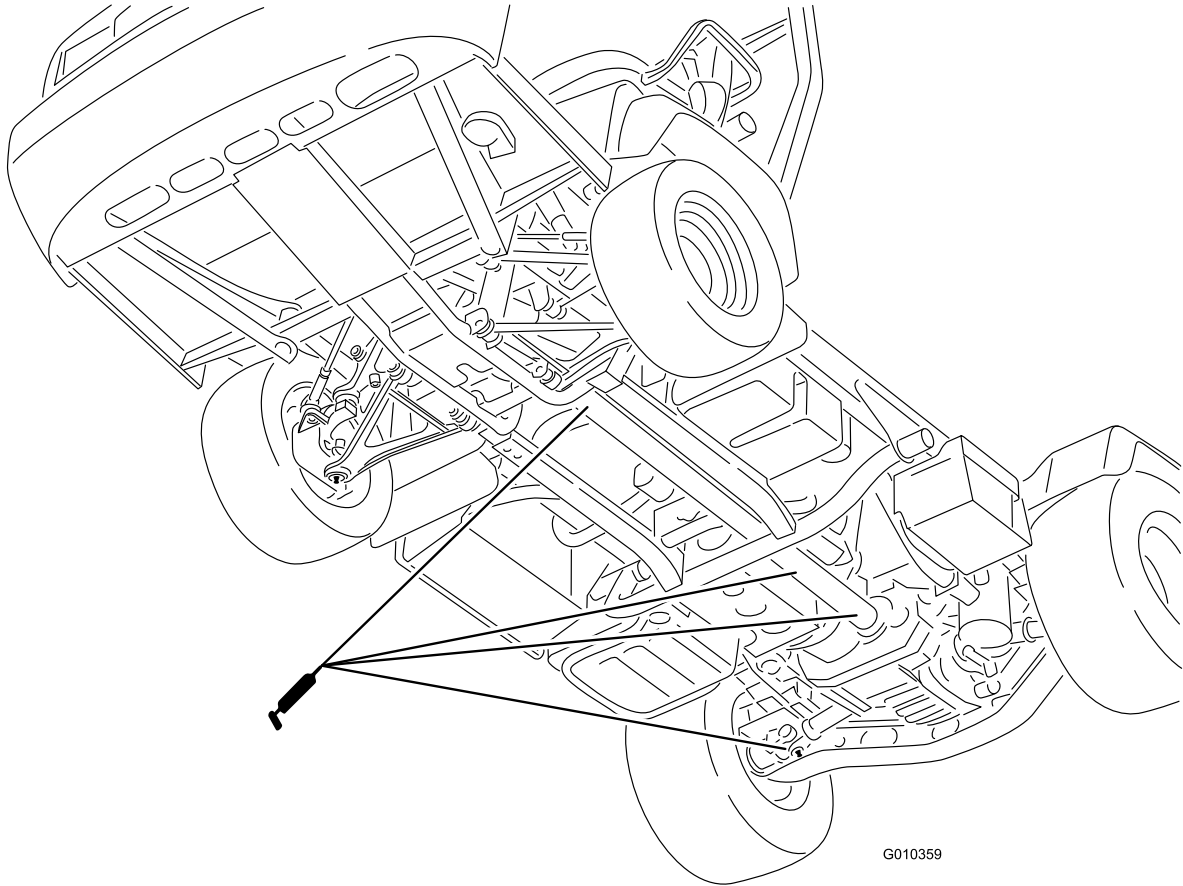

Figure 32
- **U-joint (18)**; refer to Figure 32
- **4-wheel drive shaft (3)**; refer to Figure 32